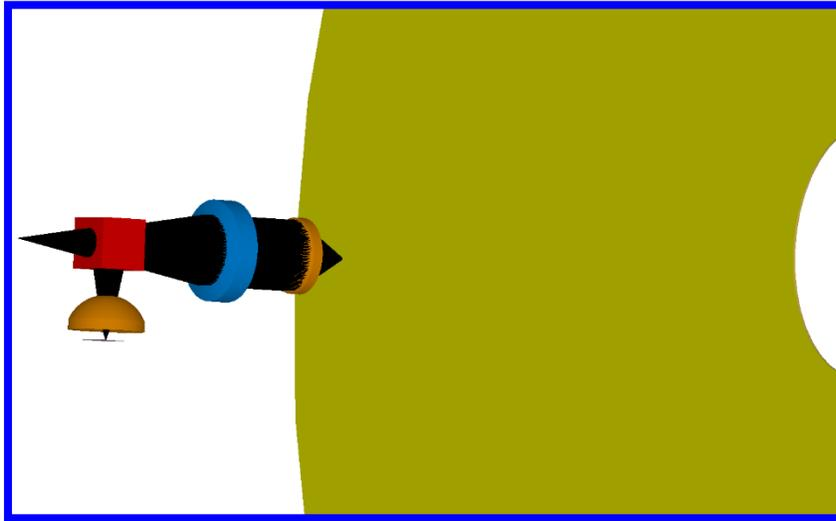

Figure 1. Macroscopic optical system to be modeled with ASAP
The macroscopic optical system as modeled in ASAP is comprised of a beamsplitter and two focusing elements, which deliver the output of a laser diode source to the DVD disk. The return beam is collected and routed by reflection in a cube beamsplitter through a focusing optic to a signal detector. *FDTD Solutions* facilitates interaction of the incident field with a microscopic surface 'bump' measuring 320 nm (W) × 120 nm (H) × 8 μm (L). See Figures 1 and 2.
The macroscopic optical system, shown previously in Figure 1, as modeled in ASAP, is comprised of a beamsplitter and two focusing elements, which deliver the output of a laser diode source to the DVD disk. The return beam is collected and routed by reflection in a cube beamsplitter through a focusing optic to a signal detector.